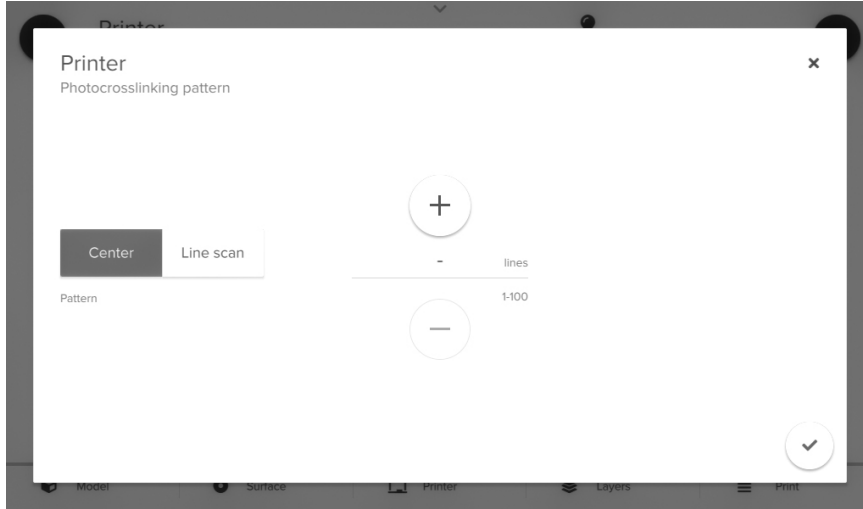

Figure 8: Setting the pattern for photocrosslinking.
- b. You can set the photocrosslinking pattern to occur in the center of the construct. You can also choose to perform a line scan across the construct for a specific number of lines (Figure 8).